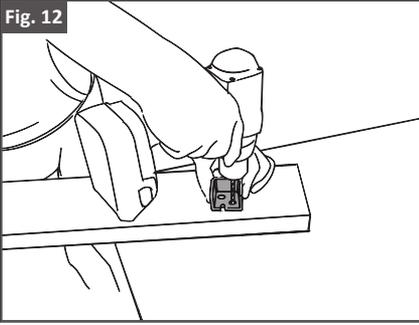

Fig. 13
4. Attach Bracket to the posts with supplied T-25 Thread-Cutting Screws. Use two screws per bracket. Use low speed setting on drill. As shown in Fig. 13.